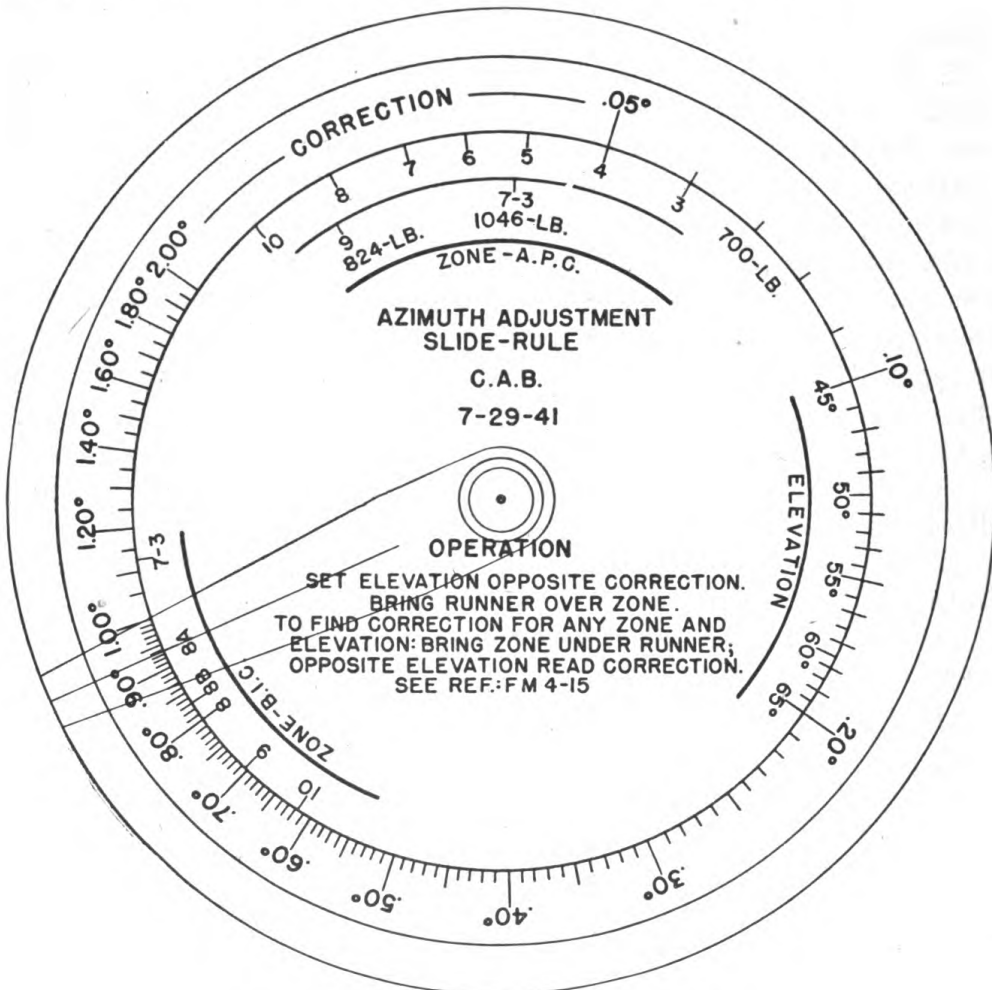

FIGURE 56.—Azimuth adjustment slide rule.
*Q.* How is the azimuth adjustment slide rule operated? *A.* Assume that a mortar battery is firing in zone 8-A using base increment charges. The operator hears a correction ordered of "left 0.15°" when firing at 55° elevation. He sets the 55° elevation mark opposite the 0.15° correction mark as shown in figure 56 and sets the runner over the mark representing zone 8-A, on the B. I. C. scale. He then applies the 0.15° correction on his deflection board. (When using this instrument, the adjustment scale on the deflection board should be marked in absolute values instead of reference numbers.) He observes the change in the correction as the elevation changes and keeps the correction set to the nearest 0.05°. Thus when the elevation increases to 60° the operator should change the correction on the deflection board to 0.20°. When the zone changes, the upper disk is moved to bring the new zone marking under the runner. He then reads the new correction opposite the appropriate elevation on the elevation scale and applies it on the deflection board.